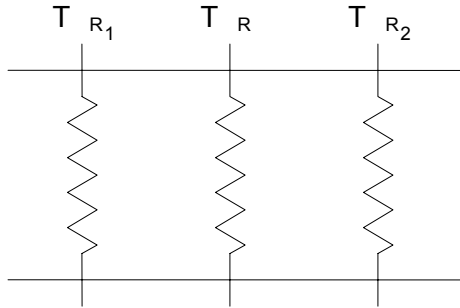

Figure 18-1: Loweric construction of a mass flow sensor.
The principle of the mass flow sensor is based on the transfer of heat created by the flow rate of gas passing over the surface of the sensitive element. The sensor is made up of a heating resistor (HR) and two thermonsensitive resistors (RT1 and RT2) mounted inside a tube through which the gas passes (see Figure 18-1) (There is also a third temperature sensitive element to regulate the heating resistor).